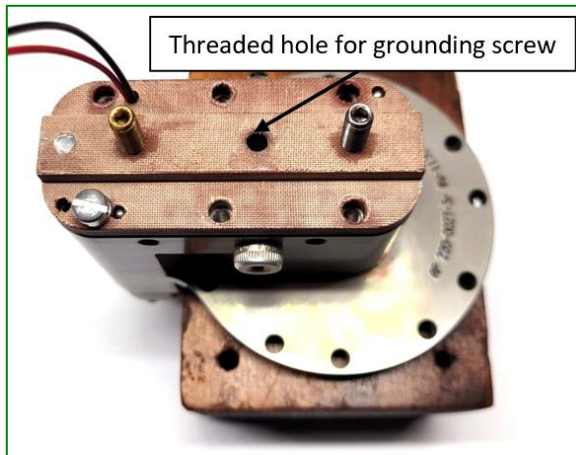
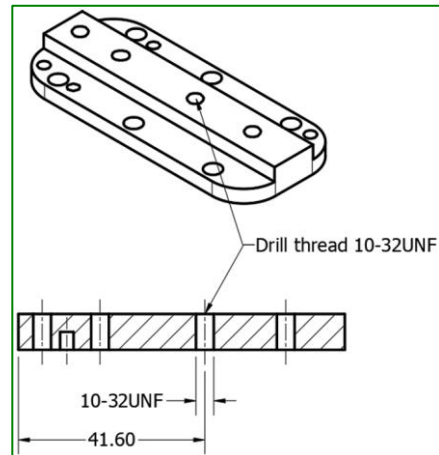

Fig. 2
Fig. 3
1. Remove cover 220-0090-5 (item 6.10) acc. to Overhaul Manual E-1049 (chapter 6.3).
2. If the cover doesn't have threaded hole for the grounding screw (see fig. 2), exchange it by cover with the threaded hole. Optional drill a thread 10-32UNF according to fig.3
3. Install the screw with spring 220-0144-5-2 in the hole for the grounding screw (fig. 2).